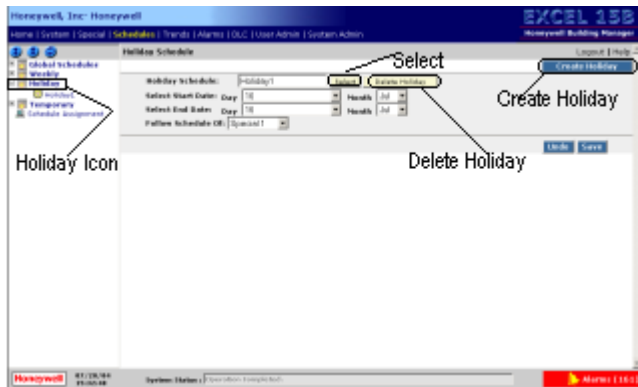

Fig. 21. Holiday Schedule Page
2. Click the “Holiday” icon and select a Holiday Schedule from the list displayed. The selected Holiday Schedule details appear on the “Holiday Schedule” page (refer to Fig. 21).
NOTE: You can also view and update another Holiday Schedule. Click “Select” (refer to Fig. 21) and choose the Holiday Schedule that you want to update from the list displayed in the “Select Holiday From List” window.